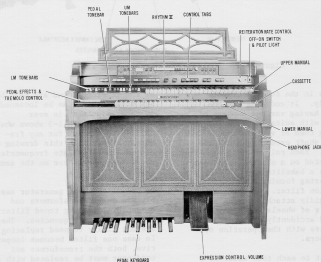

Figure 1-1. Typical T-500 Organ Front View
distinguishing function of this organ from previous T-Series organs. The remaining musical variations are controlled by tablets and knobs provided. A switch (See figure 1-1.) controls power to all motor and electronic circuits in the organ. A pilot light indicates when the instrument is powered.
- 1-8 EXPRESSION PEDAL - The "expression" pedal, sometimes called "swell" pedal (Figure 1-1), is operated by the player's right foot and varies the volume of both manuals and pedals together.